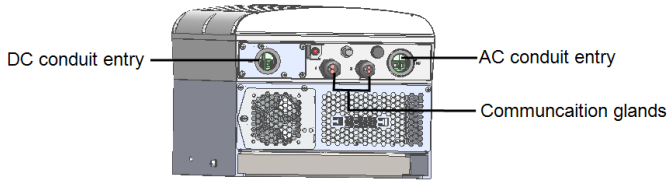

Figure 47: Primary Unit interface
1. Connect the DC, as follows, see *Figure 47*: